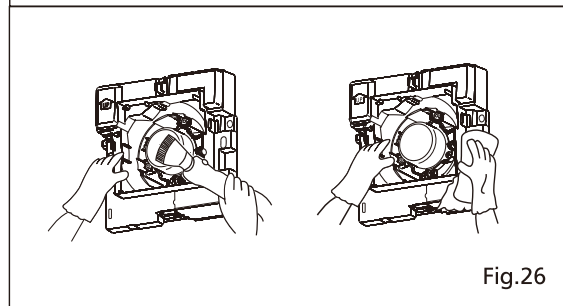

Fig. 26
4. Remove dust and dirt from fan body by using a vacuum cleaner first, and then a cloth dampened with kitchen detergent. Wipe any dirt with clean cloth. (Fig.26)